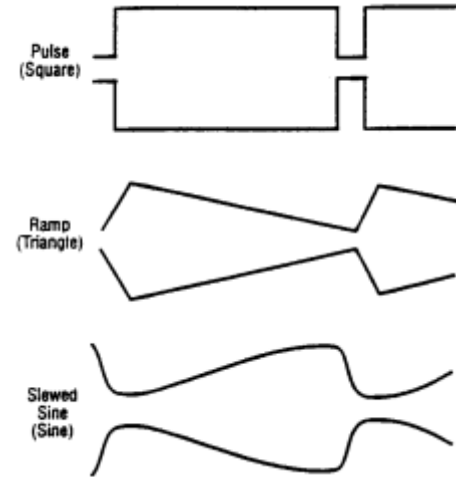

Figure 4. Effects of Symmetry Variation.
The **DUTY CYCLE** control can be used to alter the symmetry of the output waveform, to produce waveshapes such as those shown in Fig. 4. For a square wave, symmetry variation amounts to changing the duty cycle (ratio of "high" to "low" time), effectively converting the instrument into a pulse generator. For a triangle wave, the result is a ramp, and with a sine wave, a distorted waveshape called a slewed sine is produced. The Model 4017A provides for symmetry variation from 15% to 85%.
- Engage the **DUTY CYCLE** switch (17) and adjust the **DUTY CYCLE** control (10) for the desired waveshape. Clockwise rotation from center results in an increase in square wave duty cycle, and changes the sine and triangle waves as shown in the top waveform of each pair of Fig. 4. Counter-clockwise rotation results in the bottom waveform in each pair.